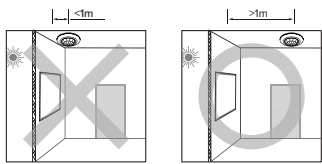

FIG.4-E
- Do not install the detector directly next to a window or sun blind which can cause incorrect measurement on the natural light (Refer to FIG.4-E).